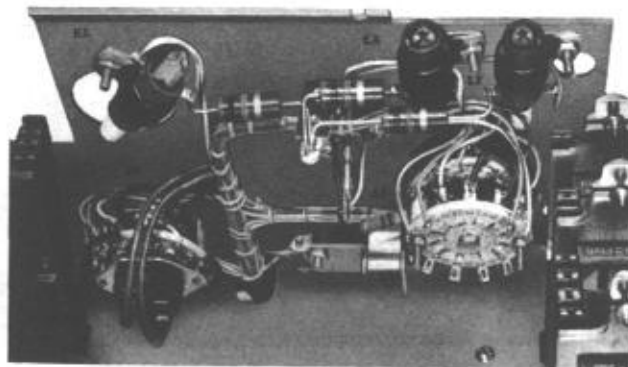

Fig. 5 — 2A Telephone Answering Set, Back of Front Panel Showing Lamps, OFF-ON and Function Switches
4.02 The lamps used for the ON-OFF (E1), DICTATE (E2), and READY (E3) lights in early type sets are removed by grasping the base of the lamp and pulling upward out of the lamp socket (see Fig. 5). The 1847 lamps used for the ON-OFF (E1, when provided), DICTATE (E2), and READY (E3) lights in standard sets are removed by pressing the lamp into the socket, turning counterclockwise until free, and withdrawing. To place a lamp, press the lamp into the socket; turn clockwise until secure. It may be necessary to loosen the clamp in order to remove the lamp. After placing a new lamp, tighten the clamp securely. (See Fig. 5.)